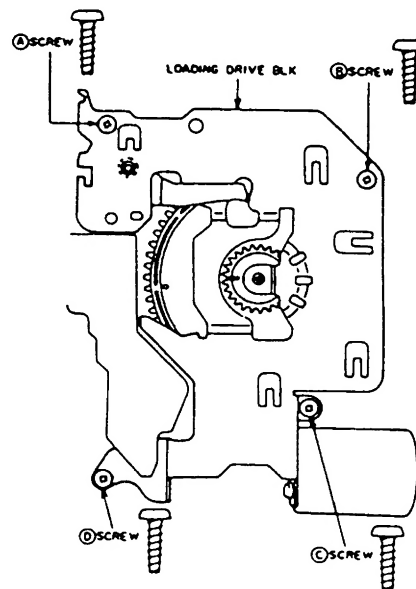

Fig. 3-13
- 2) Install the LOADING DRIVE BLK as shown in Fig. 3-13.